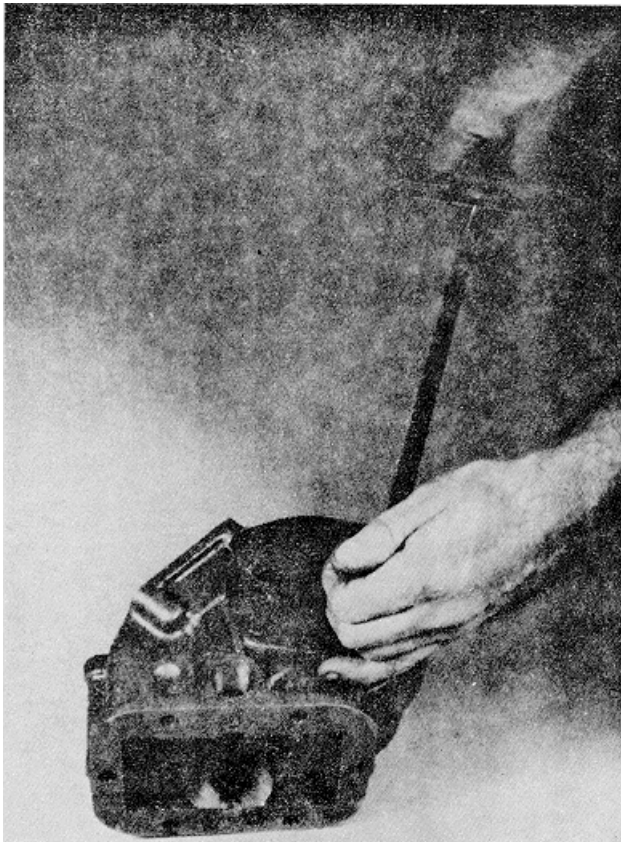

Figure 11B-18. Installing Bearing Cap
- A. Place small amount of bearing grease in I.D See Figure 11B-19.